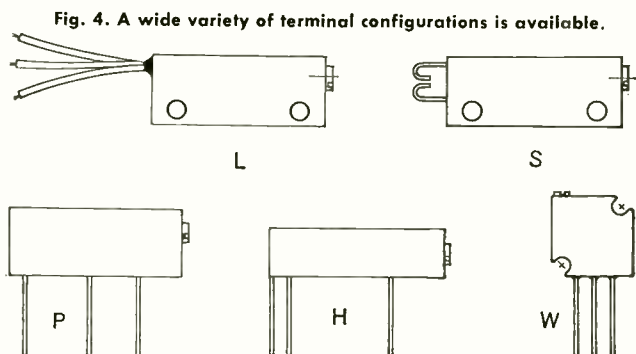

Fig. 4. A wide variety of terminal configurations is available.
The terminal styles and abbreviations would include flexible insulated stranded wire (L), solid wire leads (W), printed-circuit pins (P), solder "J" hooks (S), and solid wire leads which exit at a right angle to the adjustment shaft (H). Typical examples are shown in Fig. 4.